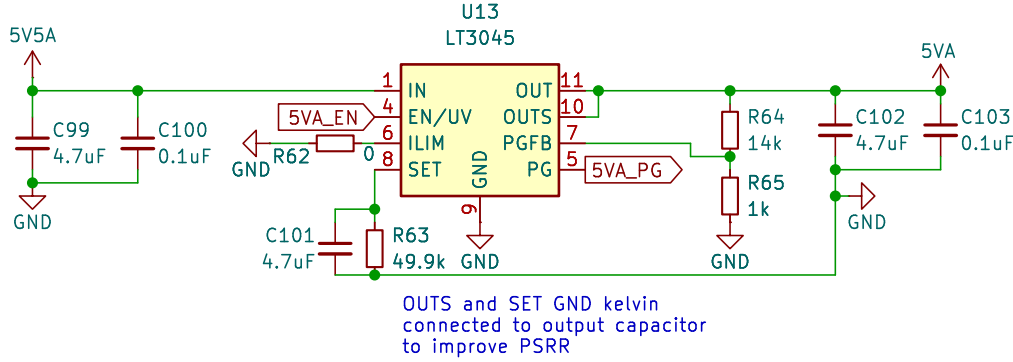

Figure 7: Analog 5 V LDO Circuit
Figure 7 shows the schematic of the analog 5 V regulator. Aside from the different resistor values used for setting the output voltage and the power-good feedback network, all LDO circuits follow the same layout. Each device's Enable (EN) and Power-Good (PG) pins are connected back to the Zynq SoC for centralized sequencing and fault monitoring.